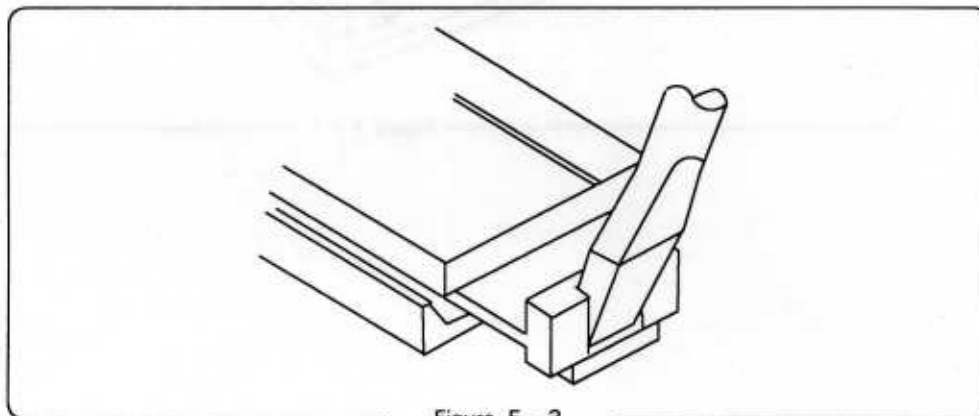

Figure F-3
- (3) Insert the plug with mark "OPEN" into the emulation CPU socket with the driver. Mark "ACT" appears on the opposite and emulation CPU can be replaced. After that, insert the plug with mark "ACT" into the emulation CPU socket with the driver. Mark "OPEN" appears on the opposite. Thus, emulation CPU can be replaced. Figure F-3 shows how to use a screwdriver.